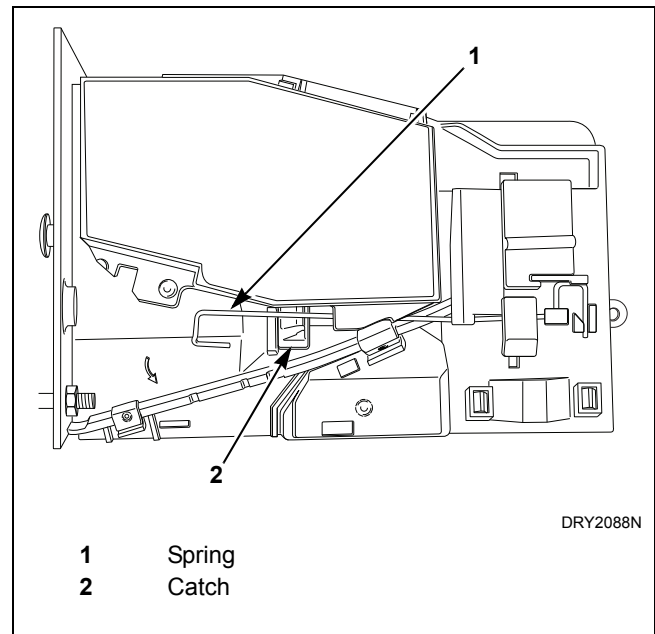

Figure 1
Refer to *Figure 1*.
- a. Move spring downward until cover catch is free. Refer to *Figure 1*.